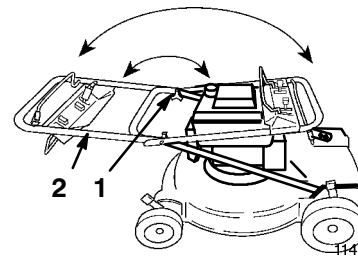

Figure 39
2. Rotate the handle toward the front of the lawn mower (Fig. 39).
Note: Fold handle only as illustrated in Figure 39. If you fold the handle in the opposite direction, you will damage the control cables.